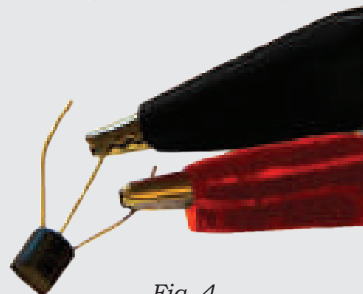

Fig. 4
4. Touch the black probe to the centre pin (base) of the transistor, red probe to either of the two — pin 1 (emitter) or pin 3 (collector) of BJT (Fig. 4).